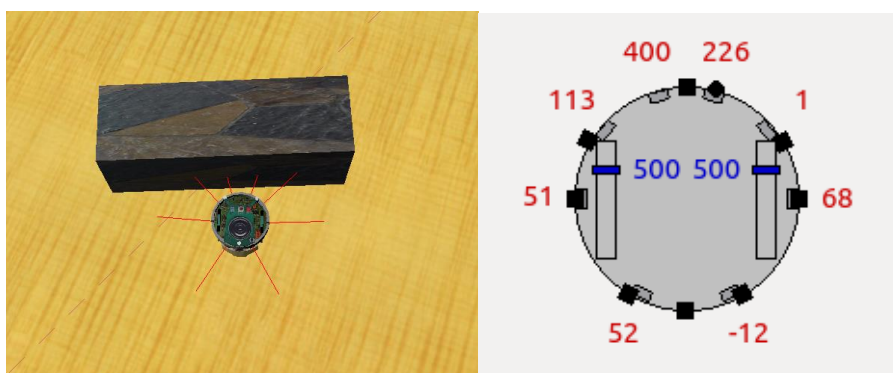

Figure 4 - Values of the proximity sensors. The frontal sensors have higher values indicating the detected object.
7. The rays of the proximity sensors can be displayed in Webots. Please switch on this feature from the menu: *View->Optional Rendering->Show Distance Sensors Rays*. You can see the values of the proximity sensors as shown in Figure 4 when double clicking the **e-puck** robot.